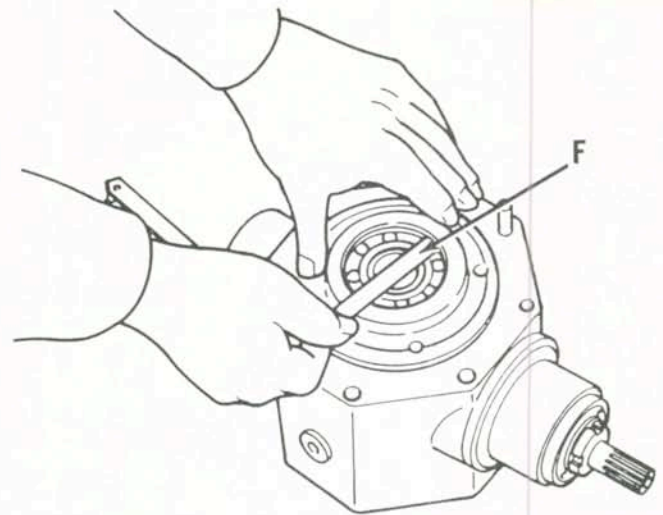
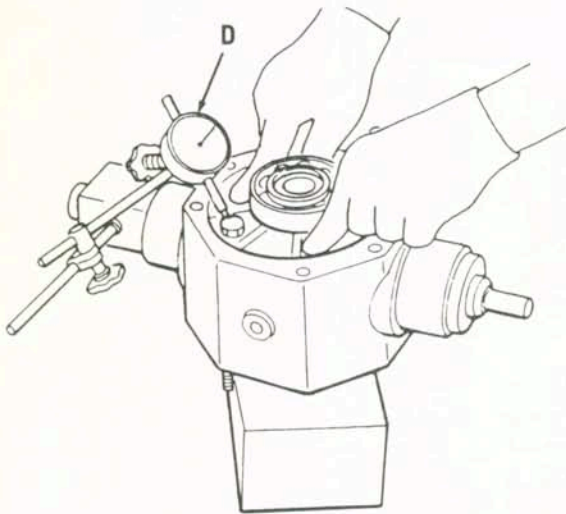

Fig. 15—Determine correct total thickness of shims by measuring clearance with feeler gauge (F) as shown.
Fig. 14—Check gear backlash using a dial indicator (D) positioned as shown.
Press carrier bearings (23) firmly onto differential carrier (31), then install carrier and bearing assembly into differential housing using shims (22L) that were originally installed. Make sure that inner bearing is firmly seated against shims in housing (18), then check backlash between pinion and ring gear with a dial indicator mounted as shown in Fig. 14. Correct backlash is 0.13-0.18 mm (0.005-0.007 in.). Backlash is increased by adding shims (22L) between inner bearing (23) and housing (18). Install cover (33) using at least three evenly spaced screws, omitting “O” ring (32). Flat washers will be necessary if original long screws are used to hold cover on while checking. Tighten cover retaining screws, then measure clearance between bearing outer race and bore in cover as shown in Fig. 15. Remove cover (33—Fig. 12) and install shims (22R) equal to the clearance measured (Fig. 15). Shims (22L and 22R—Fig. 12) are alike.